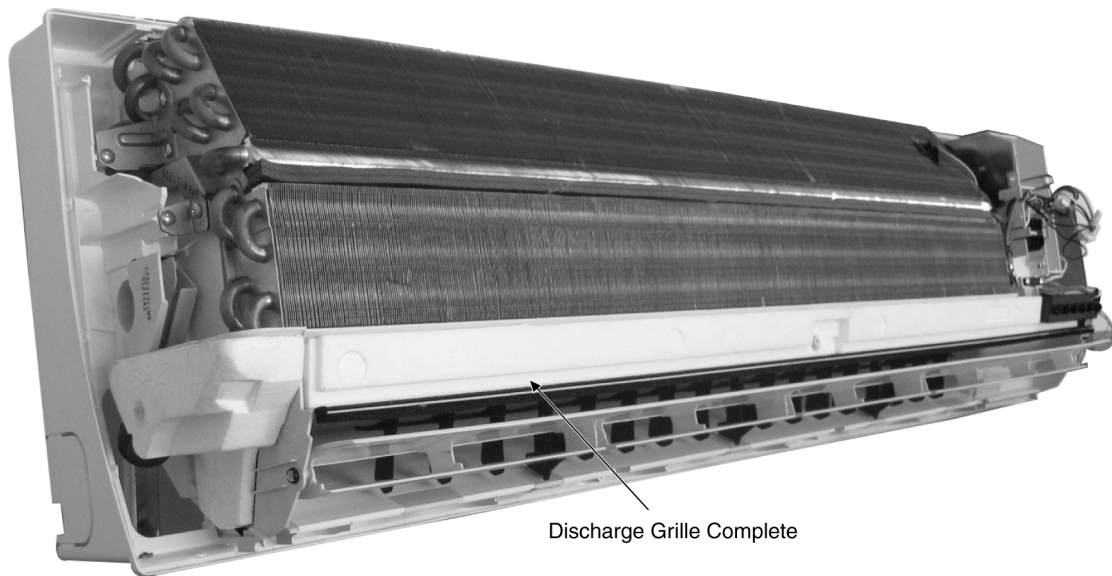

Fig. 7
- Pull down the Discharge Grille Complete. (Fig. 7)